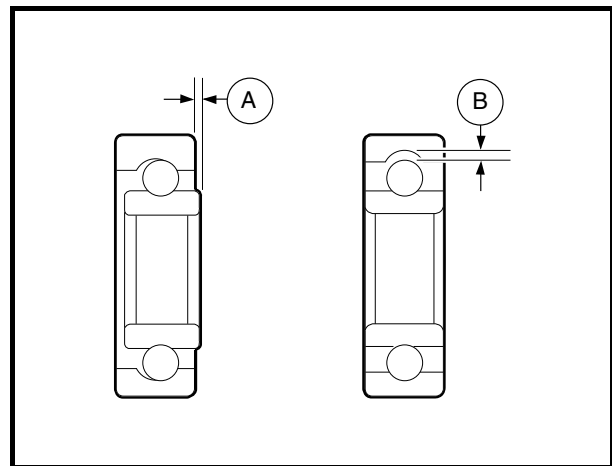

Figure 15-10 Inspect Bearing
1. Using a clean cloth, wipe the carbon dust off of the bearing. Inspect the bearing by spinning it by hand and checking for both axial (A) and radial (B) play (**Figure 15-10, Page 15-8**).